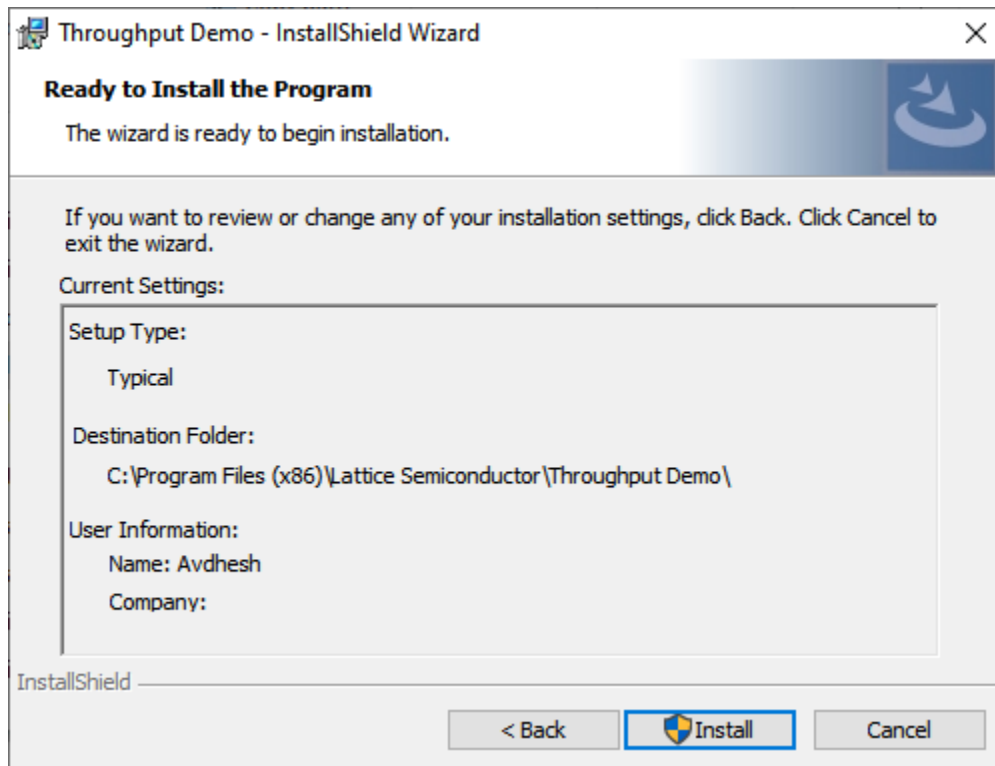

Figure 3.25. Summary Page
4. The installation summary page is shown (Figure 3.25). Click **Install**.